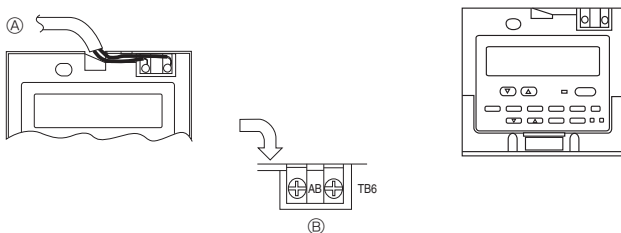

Fig. 7-8
- ④ Wall
- ⑤ Conduit
- ⑥ Lock nut
- ⑦ Bushing
- ⑧ Switch box
- ⑨ Remote controller cord
- ⑩ Seal with putty
- ⑪ Wood screw
2) Connecting procedures (Fig. 7-8)
- ① Connect the remote controller cord to the terminal block.
- ④ To the terminal block on the indoor unit
- ⑤ TB6 (No polarity)